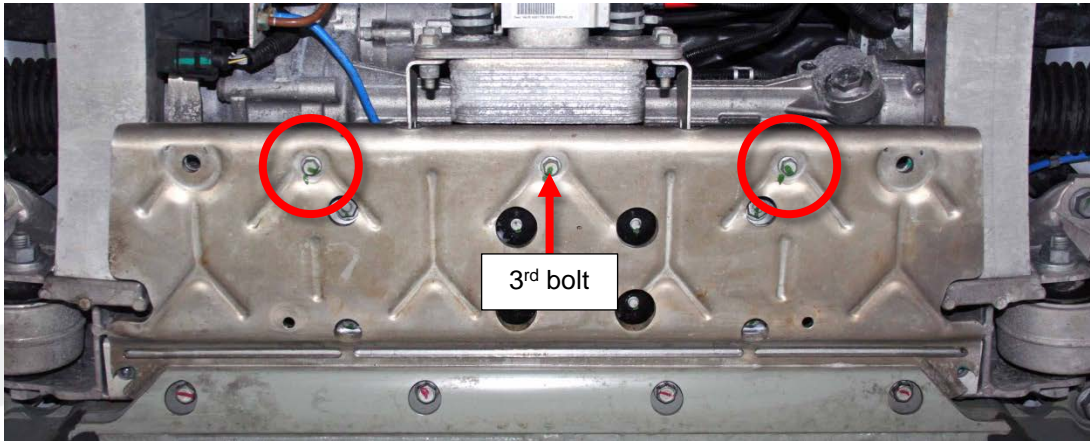

Figure 8
2. Remove the 2 bolts from the front subframe skid plate and discard them (Figure 8).